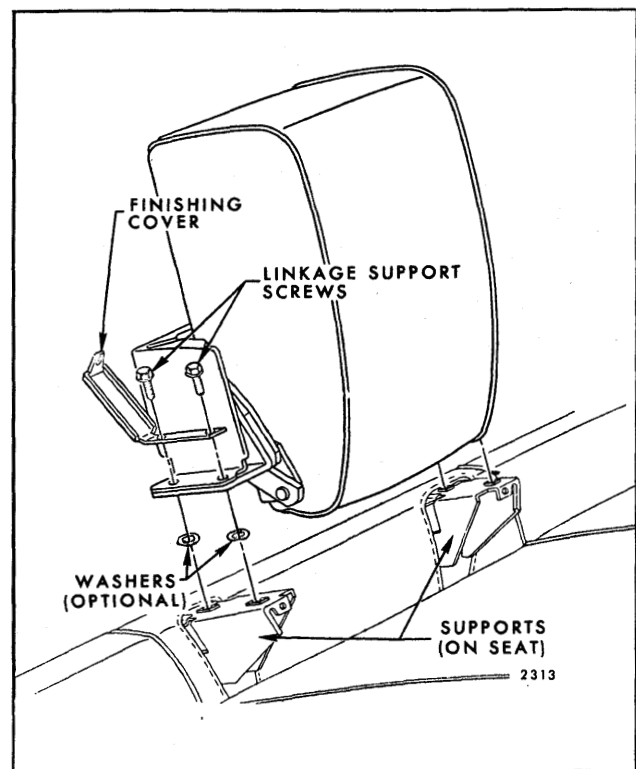

Fig. 10-27—Front Seat Center Arm Rest Support (Notch Down Seat Back)
3. Working at rear of seat, push one seat back to full forward position. Carefully pull up front of screw finishing cover sufficiently to expose arm rest support attaching screws; then remove screws (Fig. 10-27). Repeat this operation on opposite side of arm rest; then carefully remove arm rest assembly, including trim panel finishing cover, from seat.
NOTE: If washers are present between arm rest support and supports on seat (Fig. 10-27), note location and number of washers used to facilitate installation in same position. Washer(s) are used to align arm rest to front seat back(s).
alignment and operation of arm rest. Where necessary to align arm rest with seat back(s) install washer(s), as required, between arm rest support and supports on seat (See Fig. 10-27).
3. To install, reverse removal procedure. Prior to bending down support screw finishing covers check alignment and operation of arm rest. Where necessary to align arm rest with seat back(s), install washer(s), as required, between arm rest support and supports on seat (See Fig. 10-27).